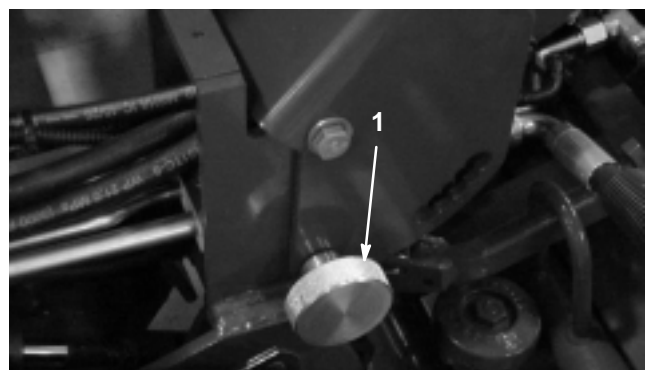

Figure 3
3. Remove the cotter pin securing steering arm locking knob (Fig. 3) and remove the knob.